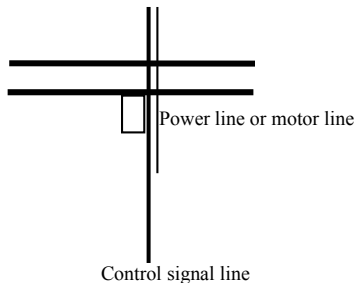

Fig. 3-25 System Wiring Requirement
(4) PE grounding cable of inverter shall not be grounded by using the grounding line of other equipment, and shall be grounded directly with the earth.
(5) Control signal line shall not be wired in parallel and close to strong-current wire (R, S, T or R, T and U, V, W), and shall not be bundled together but to kept 20-60cm (related to strong current) away from each other. If they need to be wired by crossing, they shall be vertical to each other as shown in Fig.3-25.
(6) Weak-current grounding line of control signal and sensor and strong grounding line shall be grounded respectively and separately.
(7) It is not allowed to connect other devices at the power input terminal (R, S, T or R, T).